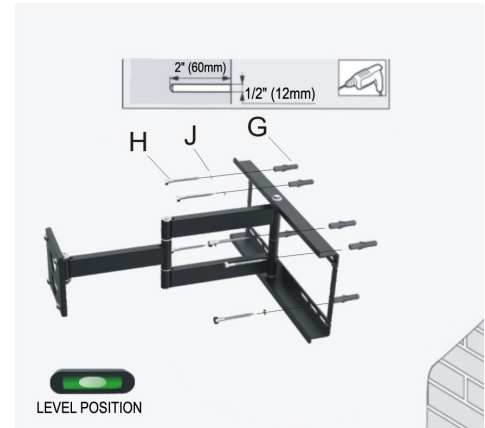

Figure 2
- 1 Begin by placing the wall plate into position against the wall, using the bubble level to keep it level. Locate the holes directly into the block or concrete, never into the mortar between the blocks (Figure 2).
- 4 Insert a concrete anchor (G) into each hole.
- 7 Insert bolts (H) and washers (J) into the concrete anchor as shown (Figure 2) and tighten. Do not fully tighten until all screws are in place.